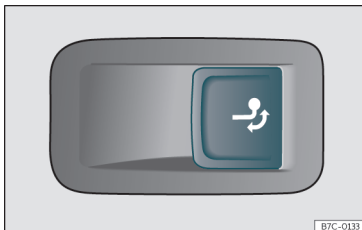

Fig. 250 On the right side of the luggage compartment: button for unlocking the tow ball.
- Pull the >>> **Fig. 250** button briefly. The tow hook unlocks electrically and automatically turns outwards. The button's control lamp flashes.
• Pull the >>> **Fig. 250** button briefly. The tow hook unlocks electrically.
- If the warning light on the button >>> **Fig. 250** → *flashes*, this means that the tow hook has not been attached properly or is damaged. >>> .
- If the warning lamp >>> **Fig. 250** → *remains on* with the rear lid open, the tow hook is correctly in place both when extracted and when covered.
- Never press the >>> Fig. 250 button when there is a trailer hooked to the vehicle or when a carrier system or other accessories are mounted on the tow hook.